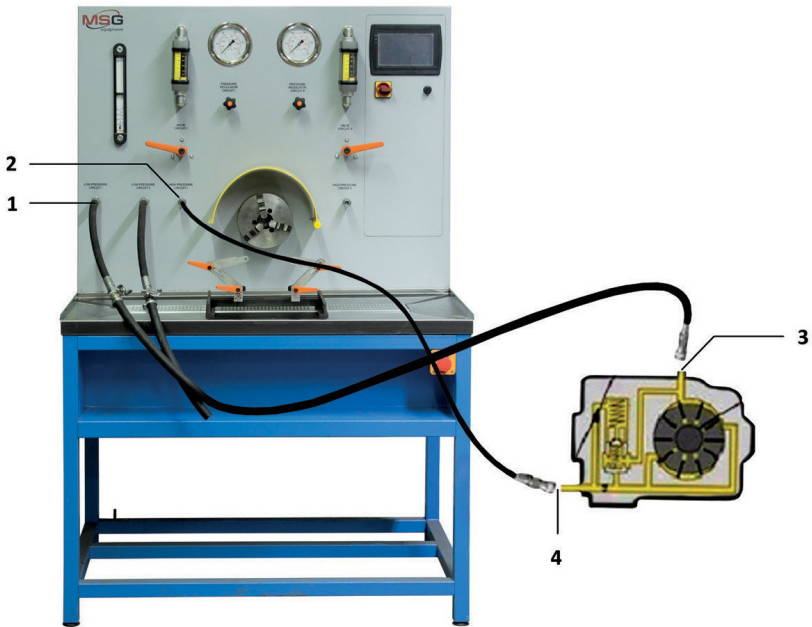

Figure 3. Connecting the power steering pump to the bench
4. Connect the high and low-pressure hoses to the bench and the pump (see Fig. 3).